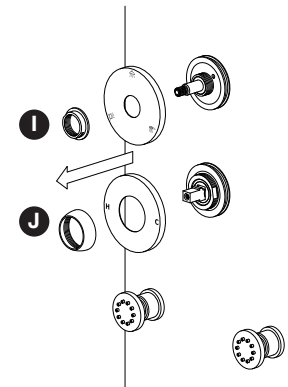

Fig.5
3. Using spanner number 23 unscrew the nut I, then, without using another tool, unscrew the cover cartridge J (see Fig.5). Remove the covers.